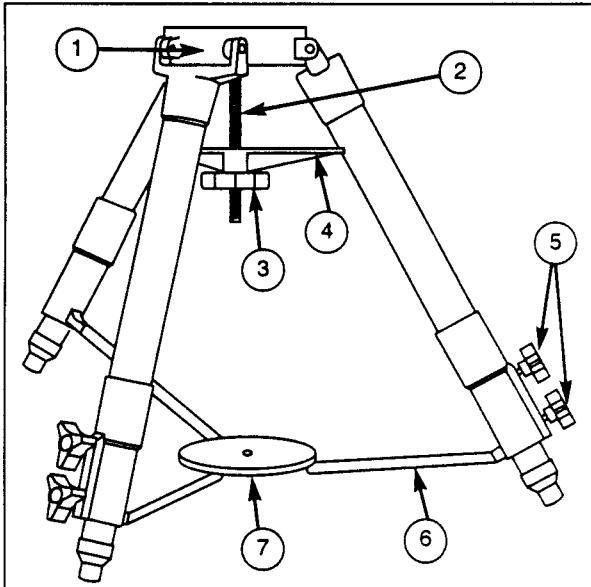
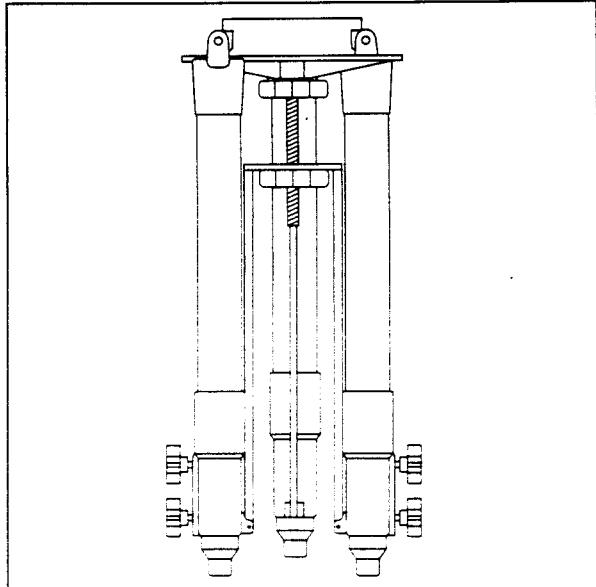

Fig. 2: LX200 Field Tripod. (1) Tripod Head; (2) Threaded Rod; (3) Tension Knob; (4) Spreader Bar; (5) Lock Knobs; (6) Extension Strut; (7) Tension Hub.
Fig. 3: Field Tripod (collapsed).
The 16" Field Tripod (Figs. 2 and 3) for Meade 16" LX200 telescope is supplied as a completely assembled unit, except for the spreader bar (4, Fig. 2) and the 6 lock knobs (5, Fig. 2) (2 knobs for each of the 3 tripod legs) used to adjust the level of the tripod. These knobs are packed separately for safety in shipment.
After removing the field tripod from its shipping carton, stand the tripod vertically, with the tripod feet down and with the tripod still fully collapsed (see Fig. 3). Remove the lower knob, releasing the tension hub (7, Fig. 2). (Note: this knob is only used in storage of the field tripod.) Moving one leg at a time, gently pull the legs apart. As the legs are opened, the tension hub will move down the threaded rod (2, Fig. 2) until it is free from the threaded rod. Continue to move the legs apart to a fully open position.
Thread in the 2 lock-knobs (5, Fig. 2) for each tripod leg, near the foot of each leg. These lock-knobs are used to fix the position of the inner tripod leg sections. These sections are used to level the telescope (described below).
Loosen the tension knob (3, Fig. 2) holding the spreader bar (4, Fig. 2) and slide the spreader bar down the threaded rod until it can be rotated so that the 3 arms are lined up with the 3 tripod legs. Tighten the tension knob; firm tightening of the tension knob is sufficient to result in rigid positioning of the legs. It is not necessary to use extreme force in tightening this knob.
- Do not overtighten the 6 lock-knobs (5, Fig. 2) used to fix the inner tripod leg sections at various heights. "Firm feel" tightening is sufficient and overtightening can damage the leg.
- Be sure the spreader bar (4, Fig. 2) is not upside-down on the threaded rod. Refer to Fig. 3 for proper orientation.
- b. Position the 16" drive base (16, Fig. 1) onto the field tripod, with the power panel facing North, away from the South facing tripod leg. Secure the drive base using the three 1/2"-13x1-1/2" long bolts. These bolts thread up through the underside of the tripod head (1, Fig. 2) into the drive base. Firmly tighten these bolts.
- c. Level the drive base by loosening the 6 lock-knobs (5, Fig. 2) and sliding out the inner tripod legs until the bubble level on the drive base reads level.